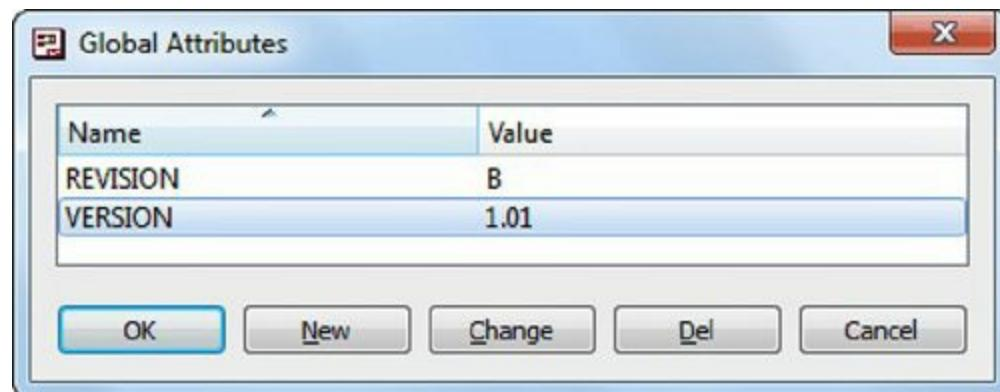

Figure 4.13: The Global Attributes Dialog
Global variables can be set by going to the Edit > Global attributes... entry in the editor's main menu. This opens the Global Attributes dialog shown in Figure 4.13.
3. In the Attributes box (which closely resembles Figure 4.13), enter a name/value pair to be associated with the selected part.